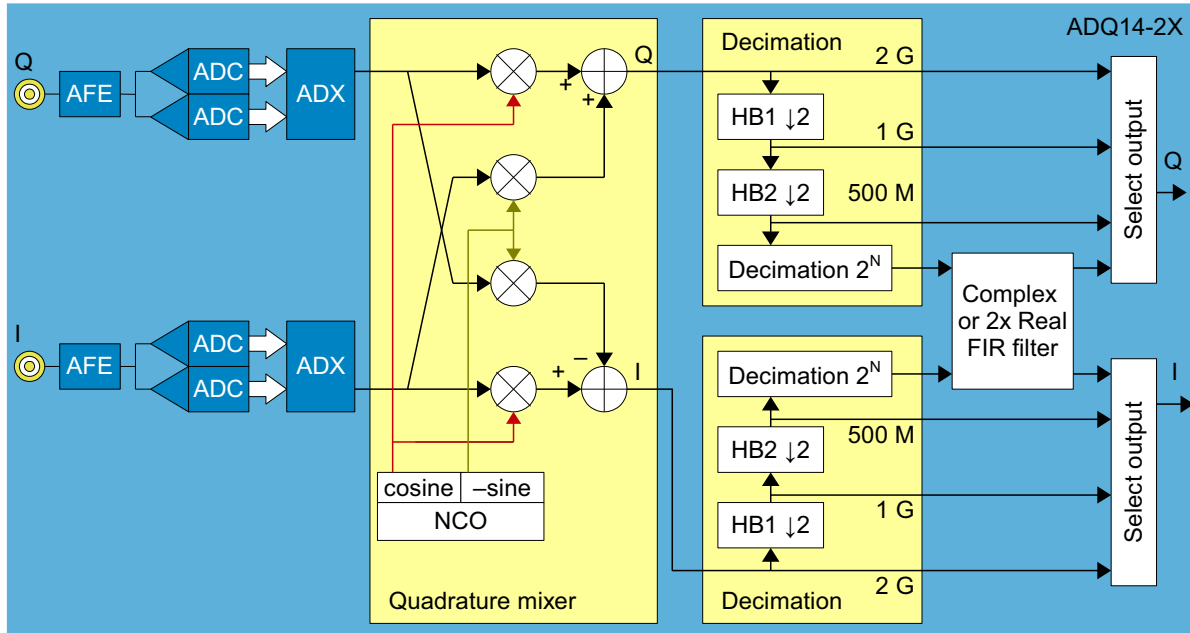
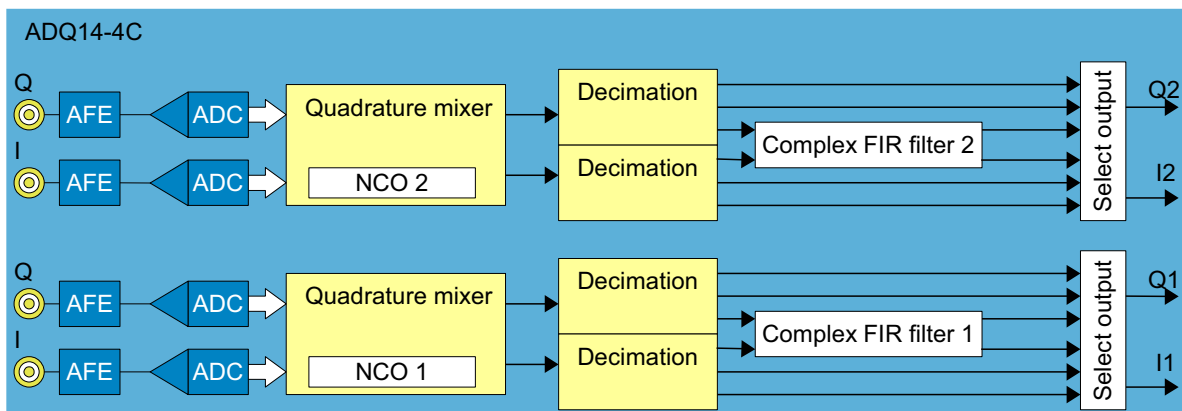

Figure 5: ADQ14-FWSDR DDC and filter details for interleaved inputs.
Figure 6: ADQ14-FWSDR DDC and filter details for 4 inputs.
The configuration with interleaved 2 GSPS inputs is shown in **Figure 5** and non-interleaved 1 GSPS is in **Figure 6**. The ADQ14-4C in **Figure 6** does not contain HB1, since the data rate from the ADC is only 1 GSPS.
- In a ADQ14-2X (2 GSPS), set the decimation factor to 32 to get $2000/32 = 62.5$ MSPS, Figure 5.
- In a ADQ14-4C (1 GSPS), set the decimation factor to 16 to get $1000/16 = 62.5$ MSPS, Figure 6.